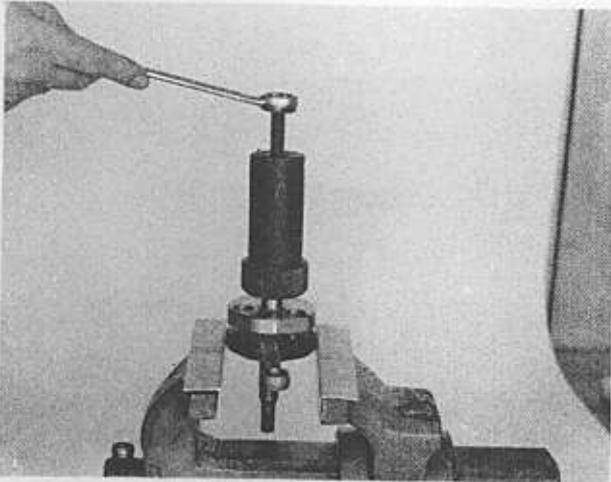

Fig. 30
7. Use the tool, Part No. 731.155, in case the bearing has been left on the crankshaft (Fig. 30).